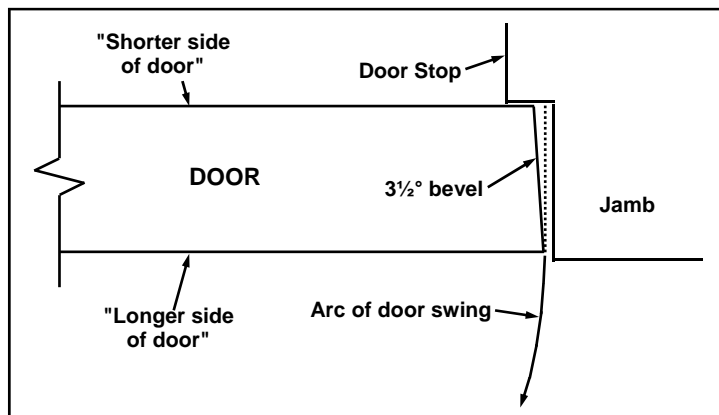

FIG. 3: EXAMPLE OF BEVELED DOOR (TOP VIEW)
1. Inspect the beveled door and determine which side is "longer" in width and which side is "shorter" in width (see "top view" example in Fig. 3). For beveled doors, be sure to use the correct holes printed on the template for the correct length of the outside door surface (either